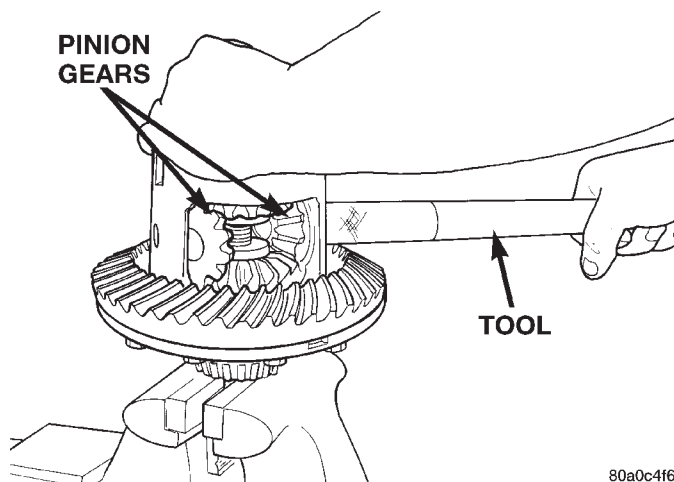

Fig. 47 Pinion Gear Removal
(11) Insert Turning Bar C-4487-4 in case (Fig. 47).
(12) Loosen the Forcing Screw C-4487-2 in small increments until the clutch pack tension is relieved and the differential case can be turned using Turning Bar C-4487-4.
(13) Rotate differential case until the pinion gears can be removed.
(14) Remove pinion gears from differential case.